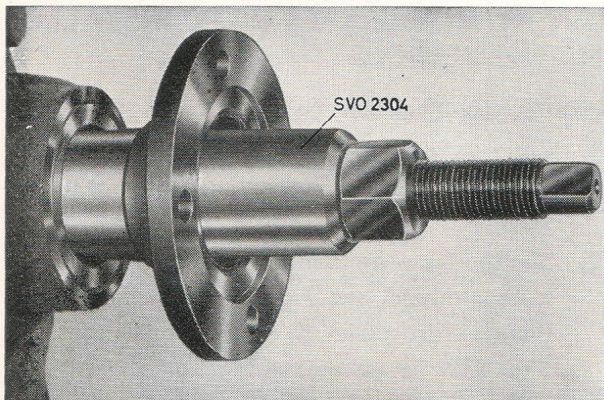

Fig. 19. Fitting the yoke (flange)
4. Press on the yoke (flange) with tool SVO 2304, see Fig. 19. Fit the remaining parts.